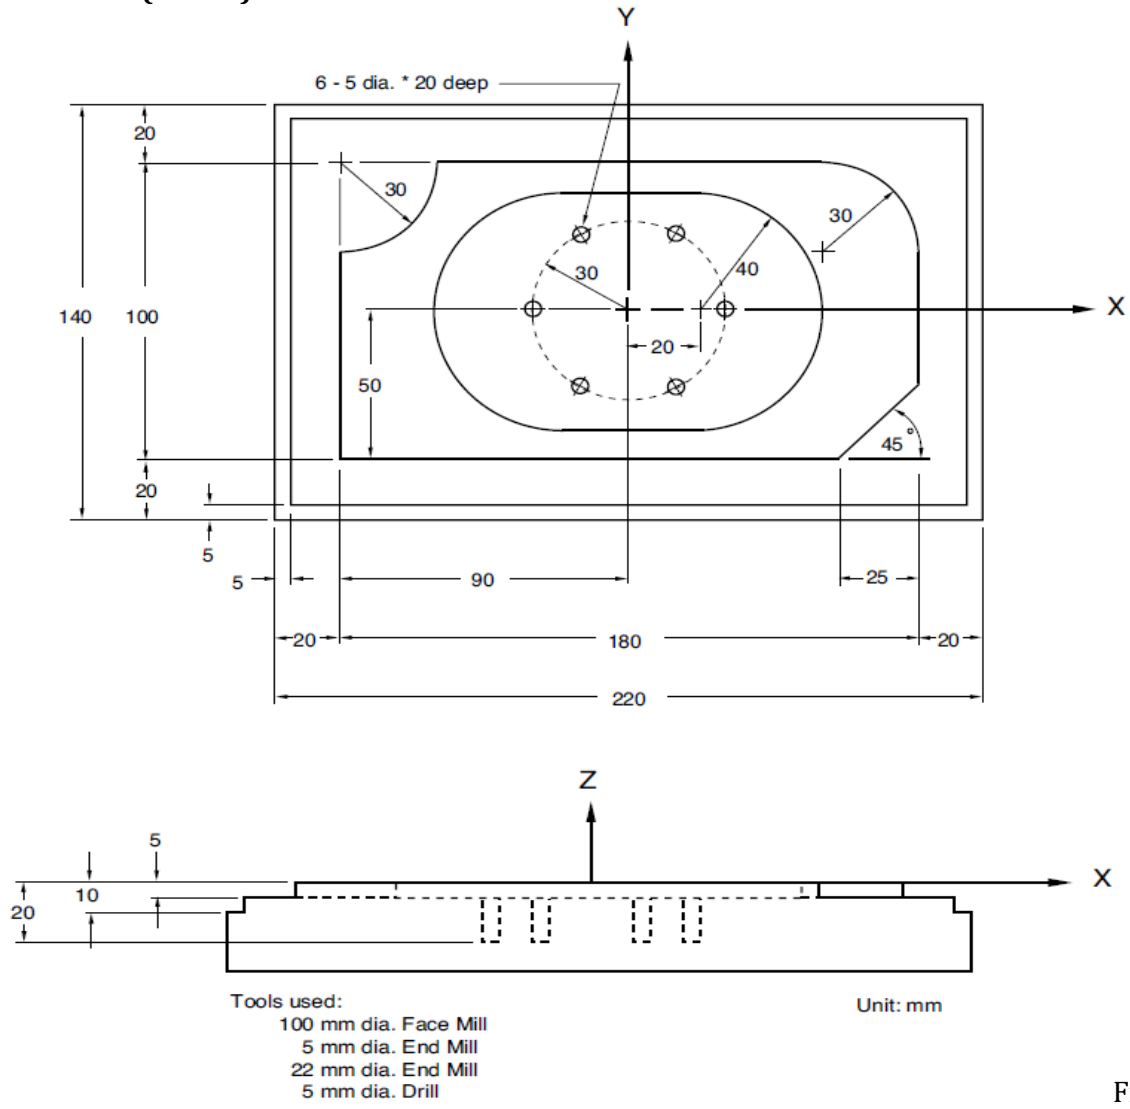

Figure QU5
- (a) Identify the 5 main operational processes along which the process planning for the machining the component shown in Figure QU5 will be carried out. [5]
- (b) Write a concise part program to machine the component shown in Figure QU5 on a CNC Milling Machine. Given that the milling tool T4 which is of diameter 8 mm operates with a feed rate $F = 80$ mm/min and the spindle speed $S = 1392$ rev/min while the drilling tool T5 which is of diameter 8 mm operates with a feedrate $F = 120$ mm/min and spindle speed $S = 1193$ rev/min. Given also that the maximum depth of cut for the milling tool T4 is 3 mm. [20]